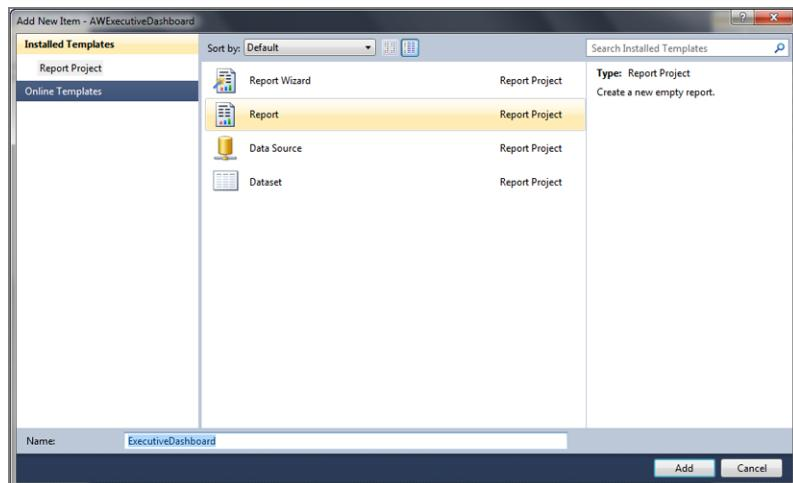

Figure 10-5
2. Select Report from the Installed Templates, name the report ExecutiveDashboard, and then click the Add button (see Figure 10-5).